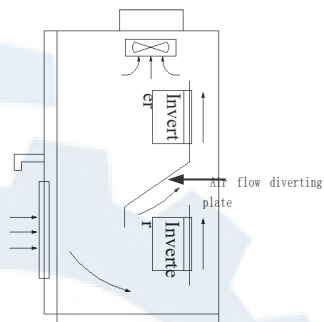

Fig.3-2 Mounting of multiple inverters
(3) When several inverters are installed in one cabinet, they should be mounted in parallel with special incoming and out coming ventilation and special fans. When two inverters are mounted up and down, an air flow diverting plate should be fixed as shown in Fig.3-2 to ensure good heat dissipation.